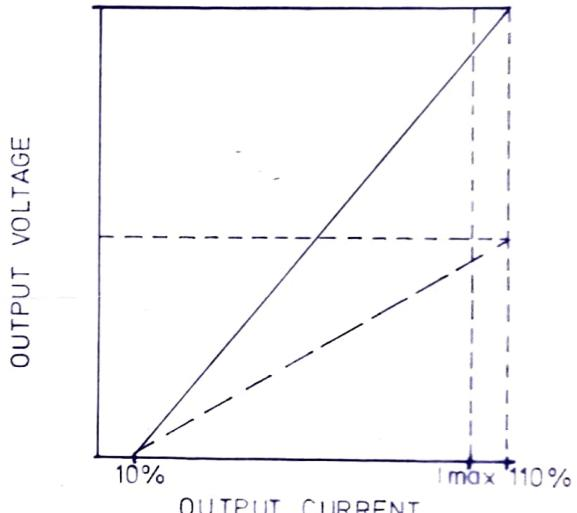

Fig. 5 Output Protection
This causes VT5 to conduct more and the output voltage falls further. In the absence of R12, this process would be regenerative i.e. as soon as the limit point was reached, the output voltage would fall immediately to zero. R12 increases the slope of the output V/I characteristic in overload to produce the overload characteristic shown in Fig. 5. With increasing overload the action of the circuitry is to reduce output current until at short circuit the current is approximately 10% of the maximum output current. This ensures that the unit will reset into normal loads, once the overload is removed. The point at which initial current limit occurs is set by T2.
Typical output voltage/current curves are shown in fig. 5. The position of the current limit once set will remain typically within 5% of the setting over the temperature range 0—50°C.
**Parallel Operation.** Units which are set to approximately the same output voltage may be connected directly in parallel. By increasing load, the unit having the highest output voltage will carry the load until it current limits, thereafter the unit having the next highest voltage will supply the extra current until it limits, and so on. A typical output characteristic for a parallel combination of three units is shown on Fig. 5. The characteristic shows a series of descending steps in output voltage at the current limit points of individual units, the amplitude of the step depends on how closely the output voltages have been set and it may not be possible to adjust this to better than 50mV.